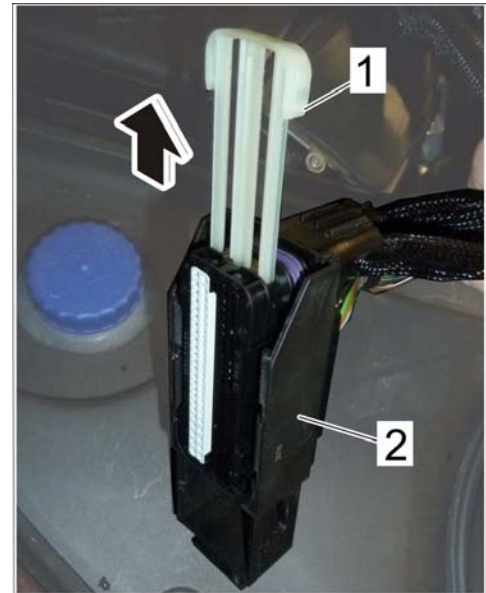

Figure 3
- 4.3 Use a screwdriver to pull the locking mechanism on the plug-in contacts \Rightarrow *Figure 3-1*- completely out of the connector housing \Rightarrow *Figure 3-2*- (\Rightarrow *Figure 3-arrow*-).